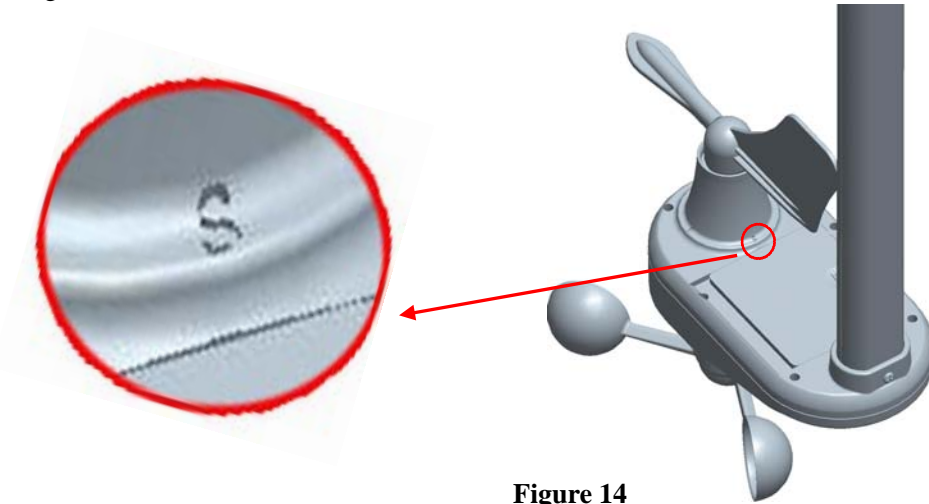

Figure 14
6.1 Wind transmitter installation. Prior to installation, you will need to calibrate the wind direction. There is a “S” indicator on the wind vane that indicates South, as shown in Figure 14. Align this “S” marker in the direction of South.